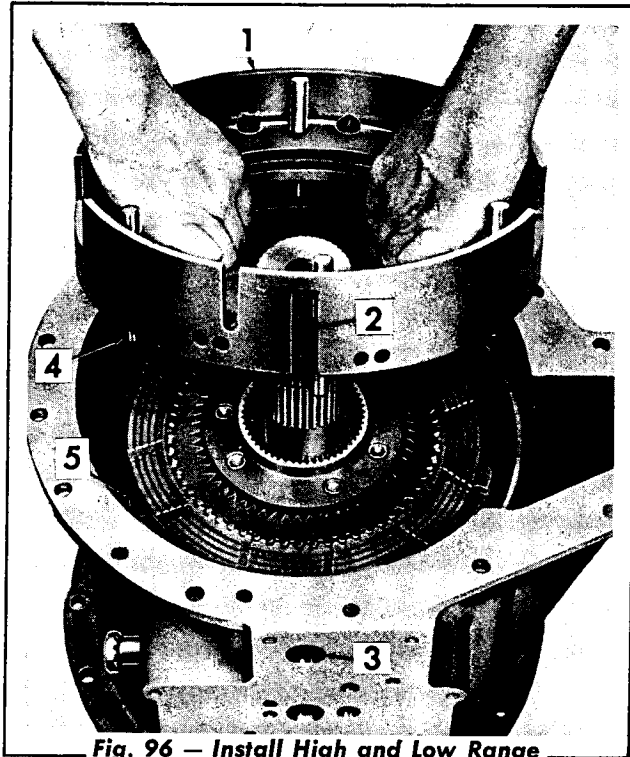

Fig. 96 – Install High and Low Range Clutch Anchor
12. Install the high and low range clutch anchor (Fig. 96), aligning the slot with the hole. Be sure that the pins align with the slotted tangs.